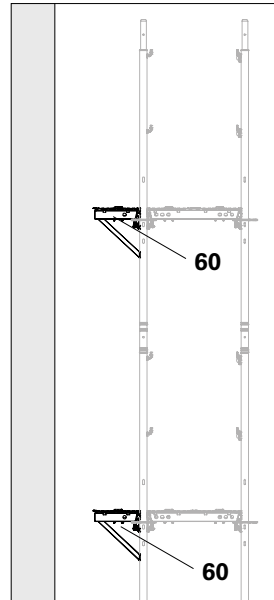

Fig. D1.03
2. Fit Support UC 25, UC 33, or UCS 33 (**60**) onto the middle frame. (Fig. D1.03)